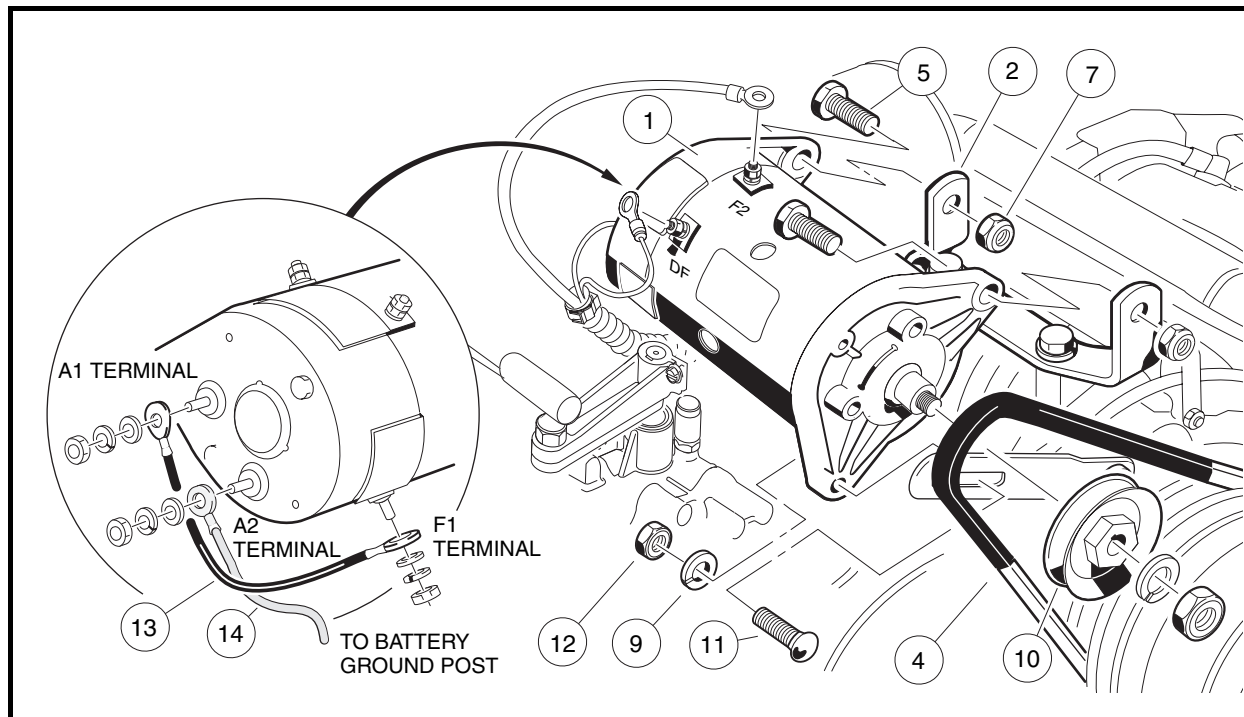

Figure 12-1 Starter/Generator Removal
3. Disconnect the wires from the starter/generator (1). Mark wires before disconnecting. Loosen the pivot nuts (7) and bolts (5) (**Figure 12-1, Page 12-2**).
4. Remove the mounting/adjustment nut (12), lockwasher (9) and bolt (11). Lower the starter/generator and slip the belt (4) off the pulley (10).
5. Support the starter/generator so that when the pivot bolts are removed the starter/generator will not fall to the ground. Remove the two pivot nuts (7) and bolts (5) from the mounting bracket.